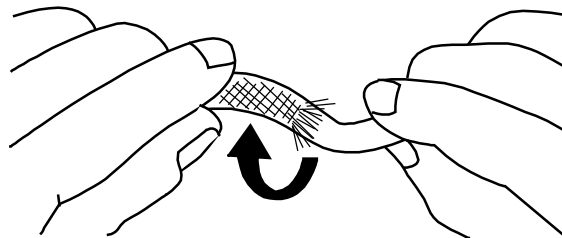

Figure 4.3A
- B. Flare shielding to allow easy insertion of male drive ferrule (See Table Two, Column C) by bending and rotating silicone insulation (See Figure 4.3A).